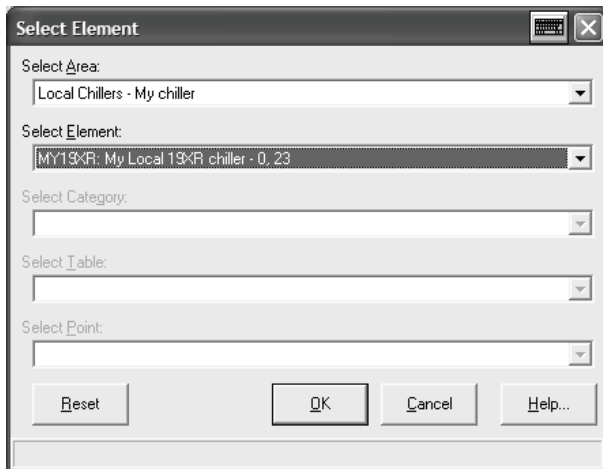

Fig. 22 — Select Element Definition
- The system will prompt to select the area and CCN element screens to clone. Select the area “Local Chiller” and element that was just added in Network Manager. Then press “OK” (Fig. 22).